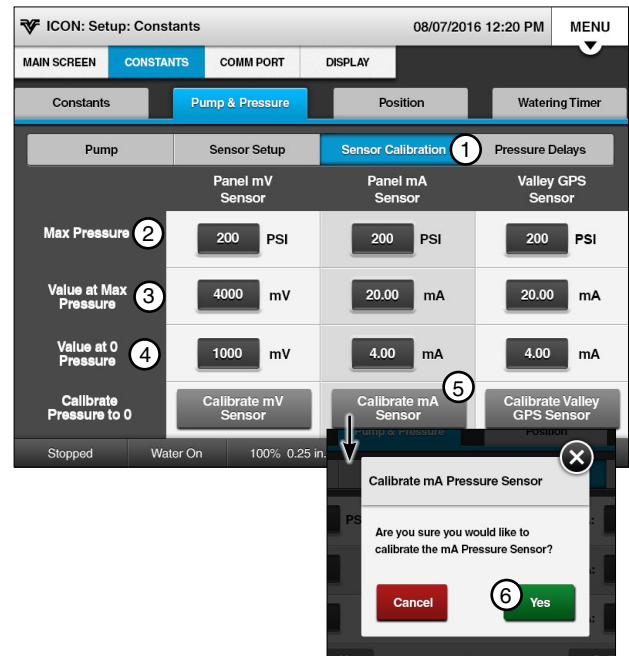

Figure 23-1 1. Sensor Calibration 4. Value at 0 Pressure
2. Push **Menu, Setup, Constants, Pump & Pressure**, and push the **Sensor Calibration** button to display the Sensor Calibration screen. Refer to Figure 23-1.